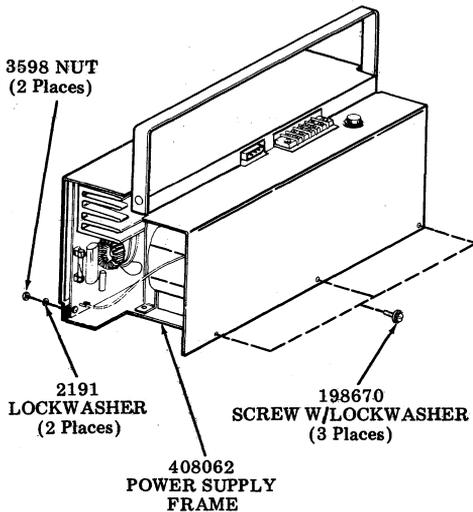

Fig. 6
- (b) The late design power supply cover is secured with screws and nuts installed to sides of power supply frame as shown in Fig. 6.
- (a) Remove three 198670 screws from right side of power supply (Fig. 6).